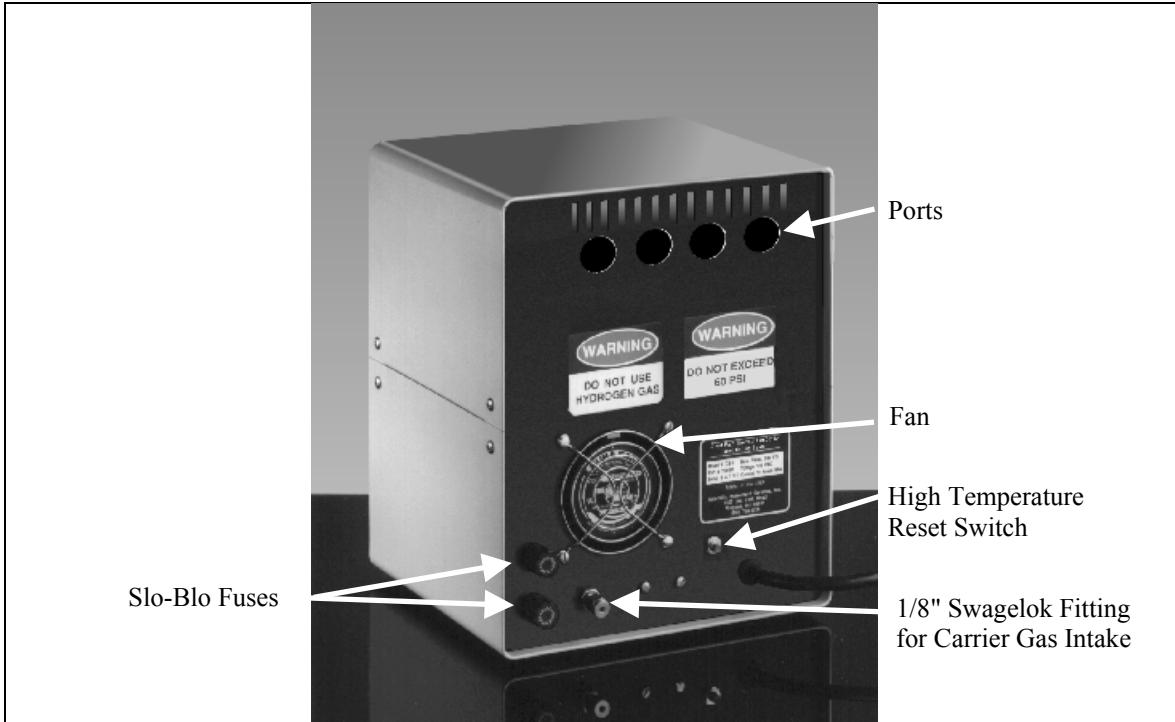

Figure 10-2 - Sample Oven - Back View
B. Rear Panel Description (Figure 10-2)
On the front of the Sample Collection Oven four quick disconnect fittings connect to a 1/8" flexible transfer line to provide gas flow through each of the sample tubes during sampling. When a quick disconnect is removed the gas flow is automatically closed to that port. By providing gas flow from a carrier gas such as high purity nitrogen or helium through the sample tubes while sampling, it can be assured that no oxygen enters the desorption tube which could destroy the adsorbent material. A single 1/8" Swagelok fitting on the back of the Collection Oven is provided for the attachment of the carrier gas from the source (Figure 10-2).
A heat overload thermostat (internal reset switch) is located inside the case of the Sample Collection Oven to prevent temperatures from exceeding 60° C inside the case, thereby providing a protective circuitry for the system. If the Oven case should exceed 60 °C due to a circuit failure (such as failure of the cooling fan to operate), this overheat sensor will open the circuit that provides power to the heater cartridges. This overheat sensor can only be reset by allowing the system to cool, opening the Oven case, and manually resetting the internal overload reset switch. If the heat overload thermostat should open when operating the system, the entire Sampling Oven should be returned to the factory for service. Service should only be performed by qualified electrical technicians knowledgeable of the system electrical circuits. In addition, a high temperature limit control board with an external high temperature reset switch (Figure 10-2 - Hi temp reset) prevents heater block temperatures from exceeding 250° C. If block temperatures exceed 250° C, the external reset will open and heat to the block will be terminated until the block cools and the external reset switch is reset (Figure 10-2). Note: Do not exceed 250° C for the heater block.